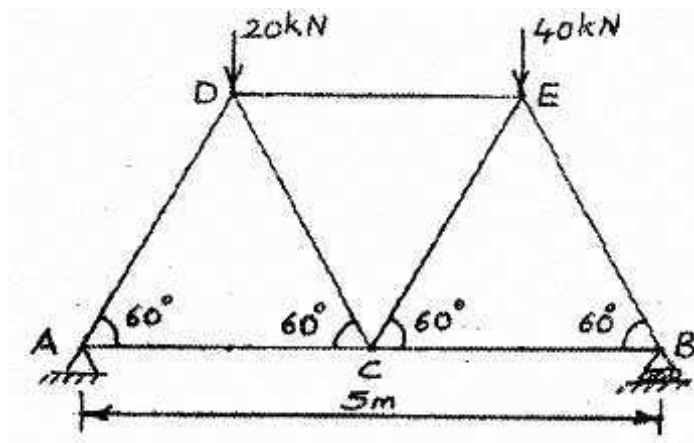

Figure 1:
3. A pin jointed warren truss of span 5m carries loads at the upper joints, as shown in Figure 1. Calculate the forces in members AC, AD, CD, and DE using tension coefficients. [16]